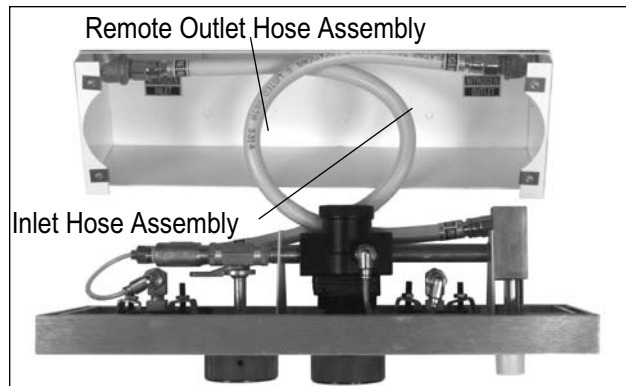

Figure 9
7. When remote outlet is used, insert hose assembly end into right remote outlet connector inside mounting box. Push hose adapter through collet into connector until it bottoms out. Pull back on hose assembly to verify proper attachment. Using same installation procedure, connect other hose end to front panel's remote outlet connector (Figure 9).
Hose assembly shall be positioned to be parallel to back of mounting box when control assembly is installed (Figure 9).